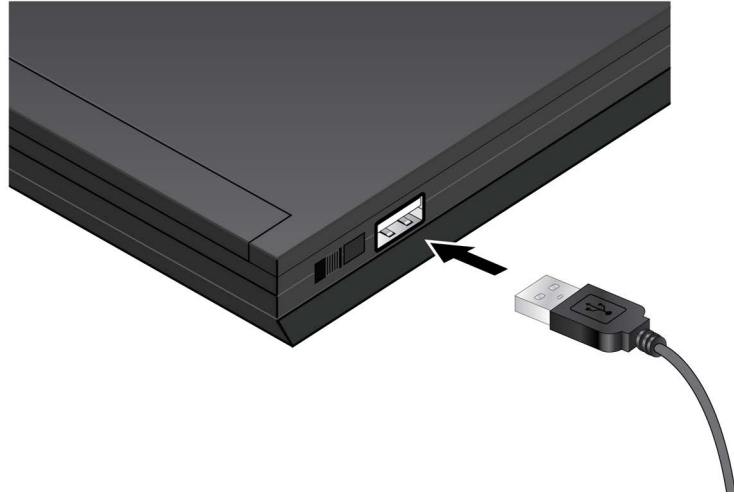

Figure 2. Connecting the USB Cable to Your Computer
2. Connect the USB Type A connector on the management cable to a USB port on your computer. Refer to Figure 2.